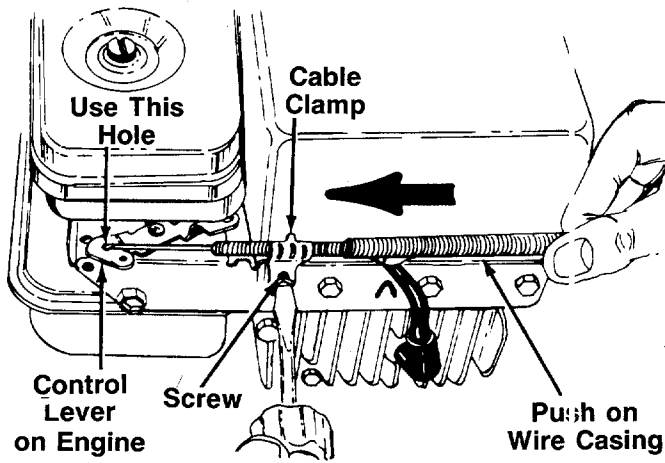

FIGURE 6A.—Models 442R & 452R
2. The throttle control cable is attached to the upper handle. Route the throttle control cable under the lower handle and inside the handle mounting bracket. Hook the "Z" end of the throttle control cable into the arm on the control lever on the engine which has two holes, using the **outside** hole as shown in figure 6A.
3. Remove the screw on the cable clamp on the engine shown in figure 6A. Slip the control casing under the clamp. Replace the screw, but do not tighten (cable must still move freely beneath the clamp).
4. Slide the control lever on the engine as far toward the **outside** of the engine as it will go. Push the wire casing on the throttle control cable toward the control lever on the engine as shown in figure 6A as you tighten the screw on the cable clamp to secure the cable in this position.